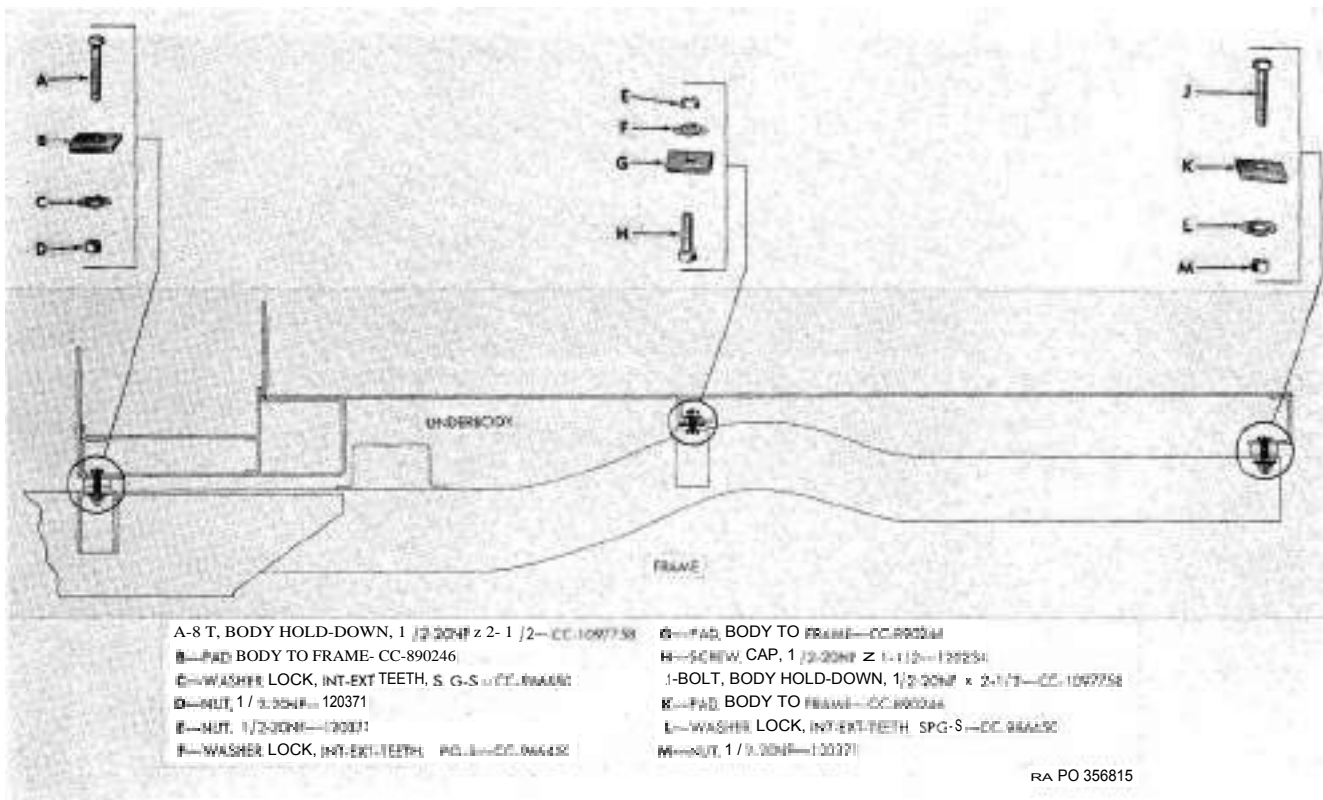

Figure 43. Telephone installation body hold-down bolt and pad locations.
- (1) Pull battery-to-ground cable and battery-to-starter cable assemblies up through body floor and install cable weatherseal and cable weatherseal retainer (two $\frac{1}{4}$ -20NC x $\frac{3}{8}$ washer face header point screws).
- (2) Install batteries and hold-down cover (two $\frac{7}{8}$ -inch plain washers, $\frac{1}{2}$ -inch lock washers, and $\frac{3}{4}$ -24NF nuts) .
- (3) Connect battery cables, except battery-to-ground cable assembly, to battery clamp terminals. Do not connect battery-to-ground cable assembly until all electrical connections are completed.
d. Install Telephone Installation Body. The telephone installation body is installed in the same manner as the ambulance body (*b* above), but only six body hold-down bolts are required (fig. 43).